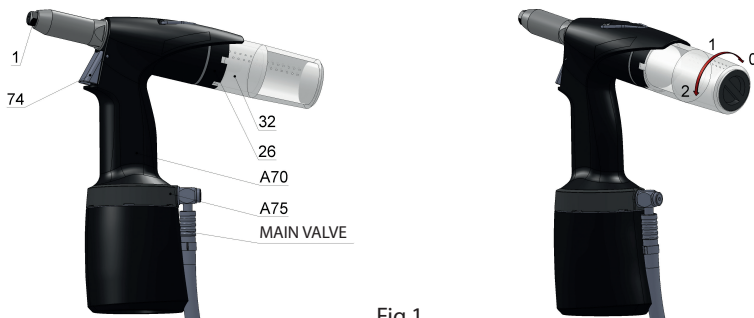

Fig.1
The manufacturer equipped the tool with a nose-piece /fig.1 – pos.1/ for a rivet Ø 5,0. Riveting with blind rivets of different diameters (further on referred to as BR) requires use of appropriate nose-pieces that are located in the accessories casing of the tool.
Replacement of nose-pieces: Connect the tool to the source of compressed air, depress the trigger and screw out the nose-piece /fig.1 – pos.1/ with a spanner no. 12. Screw on a new nose-piece /acc. to the chart/ and tighten it. Now you can release the trigger of the tool.
The tool is equipped with revolving air supply /fig.1 – pos.A75/ which enables manipulation with air supply before as well as during tool operation, air hose does not obstruct riveting in any position.
The tool is equipped with multifunction trigger /fig.1 - pos.74/ which enables following:
- Unlock the trigger (shifting the trigger down to the stop) and release it. The suction is switched on and the trigger is in position see fig. 1.
The tool is equipped with a multifunctional mandrel container /fig.1 - pos.32/ which has the following positions:
Put and push the mandrel container /fig.1 - pos.32/ into the ring relief /fig.1 – pos.26/ end-to-end, thus you depress the arrestment element, and turn to position 1 or 2. The mandrel container shall thus be in place. The suction shall initiate in position 2. Relative position of the mandrel container with air outlets /fig.1 - pos. 32/ and the ring relief /fig.1 – pos.26/ ensures that the outlet air pressure goes out in a suitable direction (e.g. offward the operator of the tool).
Turn the mandrel container /fig.1 - pos.32/ end-to-end to position 0 and pull it out of the ring relief /fig.1 – pos.26/. The suction shall thus switch off.
Suction switches off by turning and removing the mandrel container /fig.1 - pos.32/. Insert BR into the riveting tool through the nose-piece hole. Depress the trigger to move the jaws offward the BR head. The movement ends when reaching max. stroke, correct BR with respect for material gauge shall tear off the shank (riveting) for one stroke of the tool. Releasing the trigger shall return the jaws to initial position and released torn-off shank can be removed from the nose-piece by tilting the tool. /fig.1 - pos.1/.
Mounting and turning the mandrel container /fig.1 - pos.32/ to position 1 shall arrest it. Insert BR into the riveting tool through the nose-piece hole. Depress the trigger to move the jaws offward the BR head. The movement ends when reaching max. stroke, correct BR with respect for material gauge shall tear off the shank (riveting) for one stroke of the tool. Releasing the trigger shall return the jaws to initial position and the released torn-off shank can be transported into the mandrel container by tilting the tool.
Suction switches on by turning the mandrel container /fig.1 - pos.32/ to position 2. In this position the suction holds BR in the nose-piece /fig.1 - pos.1/ which enables riveting in any position without danger of BR falling out of the nose-piece of the tool. Depressing the trigger shall perform riveting. Releasing the trigger shall transport the shank into the mandrel container. If the mandrel container